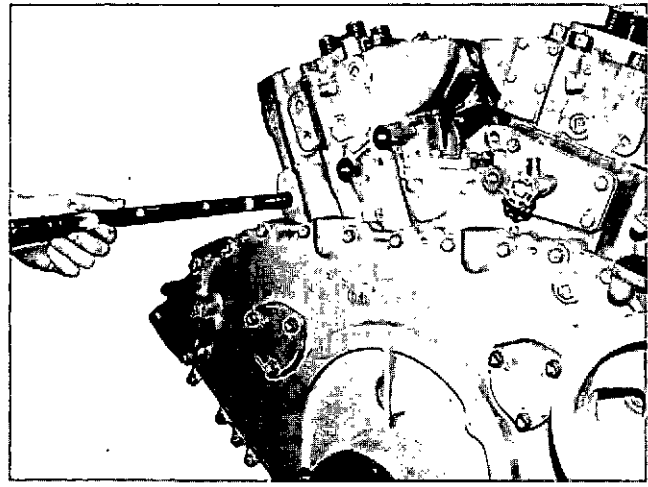

Fig. 14-1-56, V414156. Installing compression release shaft
2. Position shafts with locking groove to rear of cylinder block. Fig. 14-1-56. Insert shaft and push through block until it protrudes from rear. Install "O" ring seal and push shaft toward front. Install "O" ring over shaft at front of block.